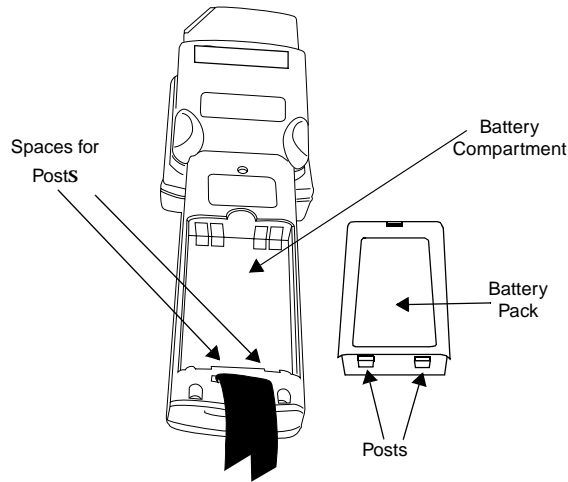

Figure 6-4. PDT 3500 Battery Pack Replacement
1. Insert the battery in the bottom of the compartment. Two posts on the battery pack must fit in corresponding spaces in the housing (refer to Figure 6-4).